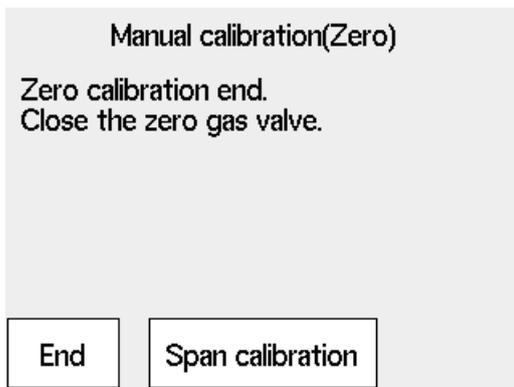

Figure 6.23 Zero Calibration complete
- (9) After the measured value has stabilized, press the [Enter] key to display the “Zero calibration complete” display shown in Figure 6.23. At this point, the measured value is corrected to equal the zero gas concentration setting. Close the zero gas flow valve. The valve lock nut should be tightened completely so that the zero gas does not leak.